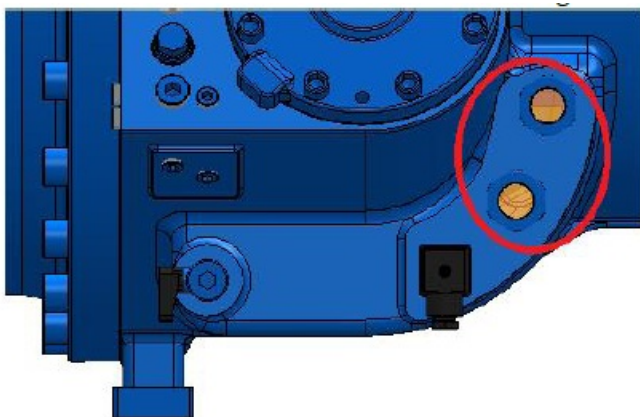

Figure 5E: Oil sight glasses for oil level control
- The level must be visible between the 2 oil sight-glasses (see Figure 5E);